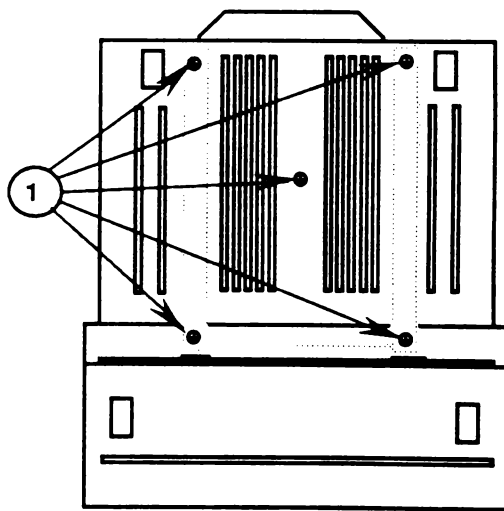

FIGURE 1
3. Remove the five screws (Figure 1, #1) from the bottom of the monitor.